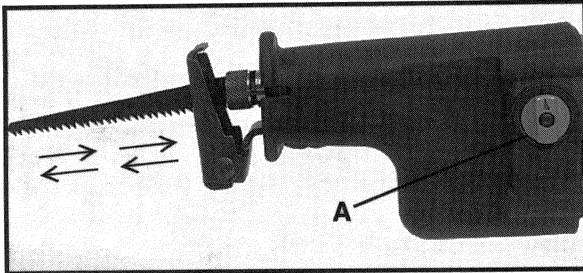
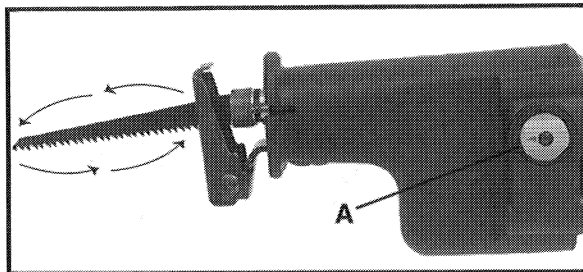

Fig. 6
Fig. 7
Model 739 has dual blade motion: you have a choice of straight reciprocating motion, as shown in Fig. 6, or orbital motion as shown in Fig. 7. Straight reciprocating motion should be used for all metal cutting operations, and for wood cutting applications where finish is more important than speed. Orbital motion is used for fast cutting of wood.
To set saw for straight reciprocating motion: rotate knob (A) Fig. 6, clockwise so that the bar is vertical (arrow pointing to I), as shown in Fig. 6.
To set saw for orbital motion: rotate knob (A) Fig. 7, counterclockwise so that the bar is horizontal (arrow pointing to II), as shown in Fig. 7.